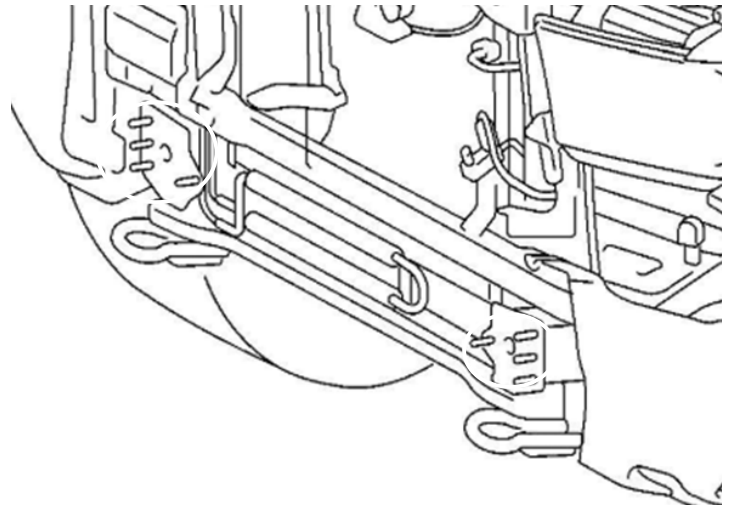

Figure 4
5. Using a 14mm wrench, remove the eight (8) nuts securing the bumper and crash bar to the frame rail end. (Figure 4)